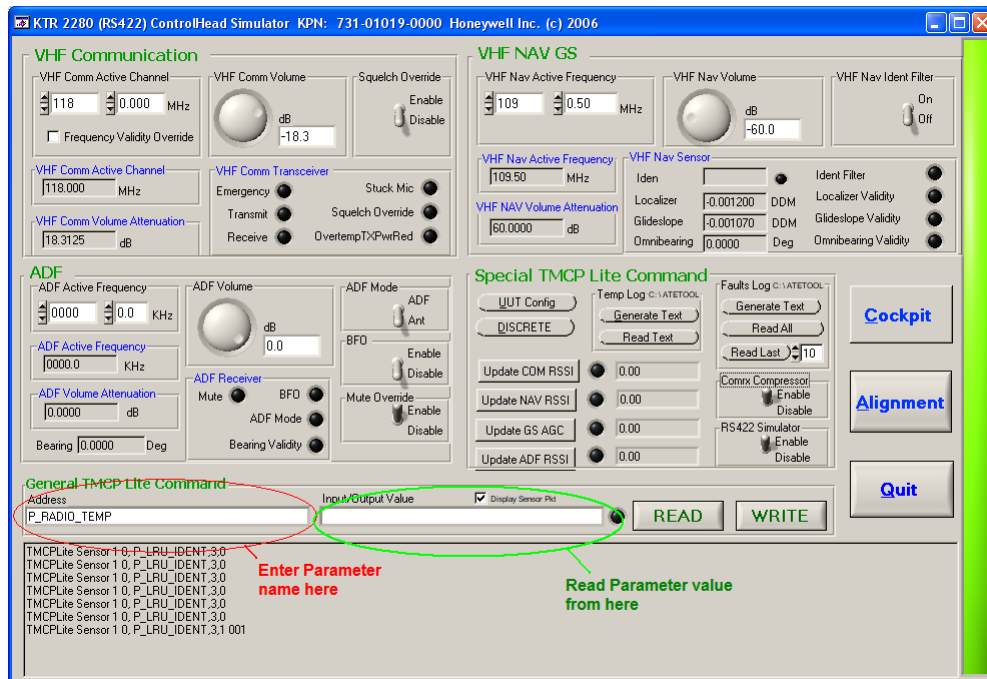

Figure 13. Control head Simulator Screen
- (6) Confirm the KTR 2280 SW Update
- (d) In the TE2UI graphical interface “General TMCP Lite Command” address field, See Figure 13, type the Parameter Address command exactly as shown in Table 4. Then press READ. Make sure the result in the Input/Output Value window is the same as the expected result given in Table 4. Repeat for all 5 files.